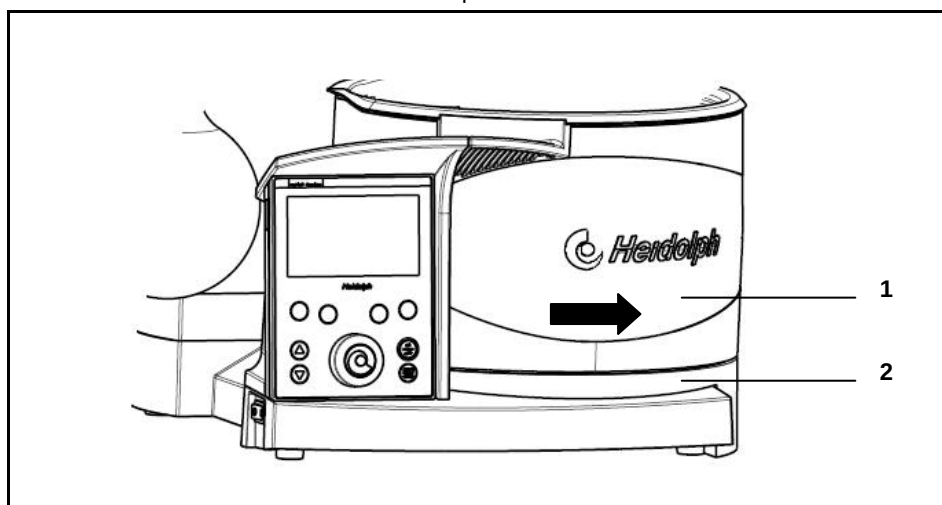

Figure 4-2: Heating bath
- ➔ Shift the heating bath including the base plate by the handle on the rail and position accordingly (Figure 4-2: Heating bath).